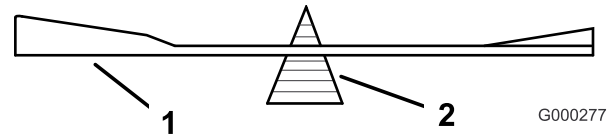

Figure 69
2. Check the balance of the blade by putting it on a blade balancer (Figure 69). If the blade stays in a horizontal position, the blade is balanced and can be used. If the blade is not balanced, file some metal off the end of the sail area only (Figure 70). Repeat this procedure until the blade is balanced.